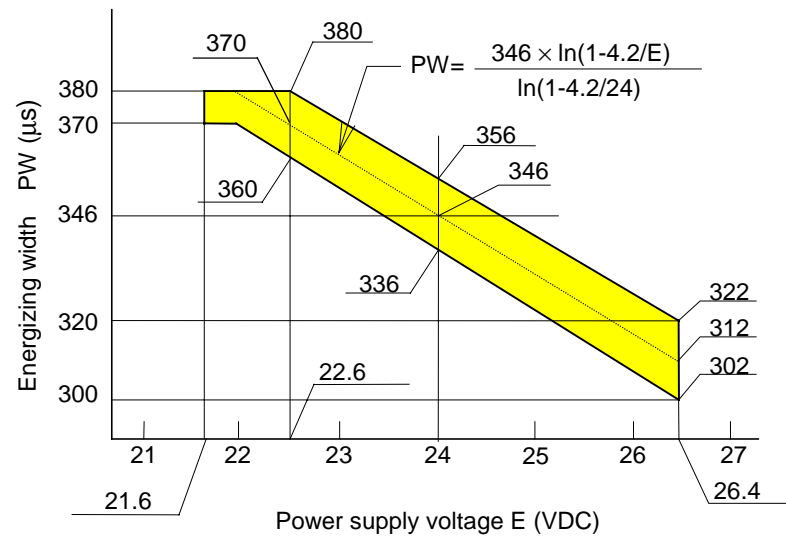

Figure 2.3.1
The energizing width must be controlled so that it falls between the maximum and minimum values in Figure 2.3.1. Otherwise, the performance and life expectancy of the printer will be impaired.
If the printer is used out of the range shown in Figure 2.3.1, the users must take responsibility themselves. It is recommended to perform an endurance test or functional test in advance of this use of the printer by the user. (A functional test indicates evaluation for dot misalignment, ribbon hanging, or broken wire.)
4. t denotes the energizing period to the print solenoid based on Figure 2.3.1.